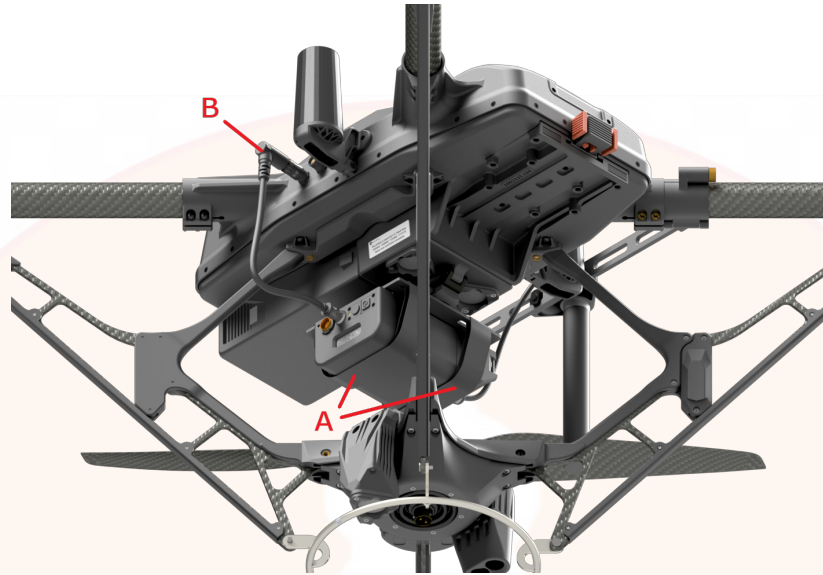

Figure 16: TW-870/875 Radio Installation 1
1. Insert the TW-870 or TW-875 radio into the two straps attached to the Universal Radio Plate, centered and oriented as shown, and then tighten the straps to secure the radio in place (**Figure 16, A**).
3. Plug the TW-870/875 Power Cable Assembly into the radio's power connector and into the aircraft **P1** connector (**Figure 16, B**).